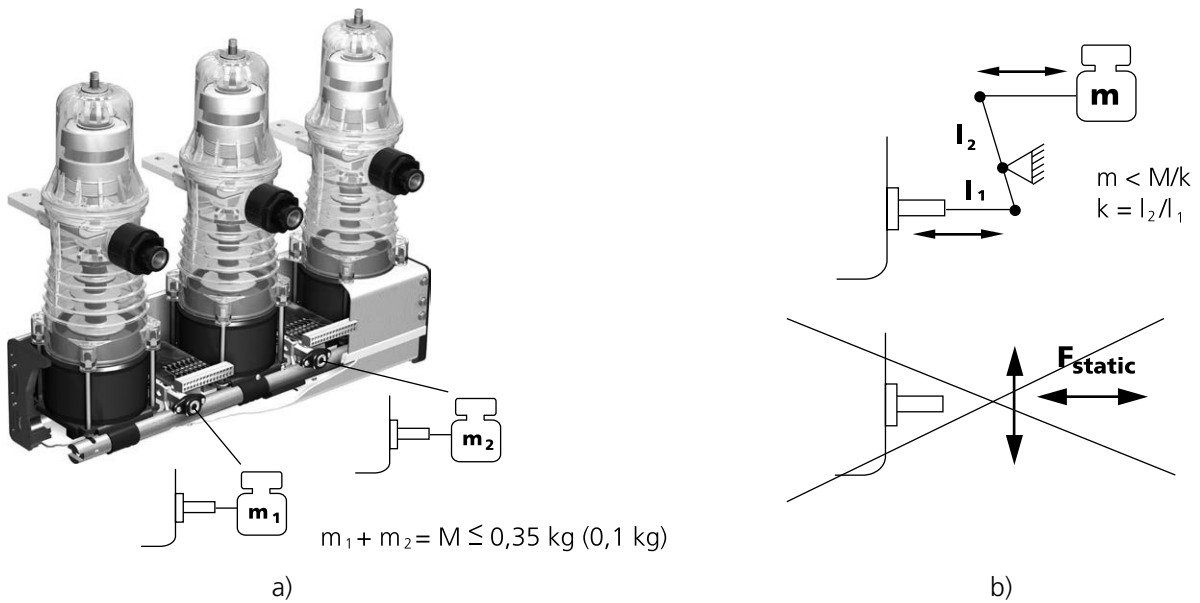

Figure 55
- If the interlocking mechanism is attached to one of the interlocking pins, the weight of the directly attached movable part to the interlocking pins shall not exceed 0.35 kg. If both interlocking pins are used, the sum of the attached weights shall not exceed 0.35 kg (Figure 55).
- For manual-emergency-tripping a force of up to 250 N may be applied to the interlocking pins. But no static force shall be applied (Figure 55).